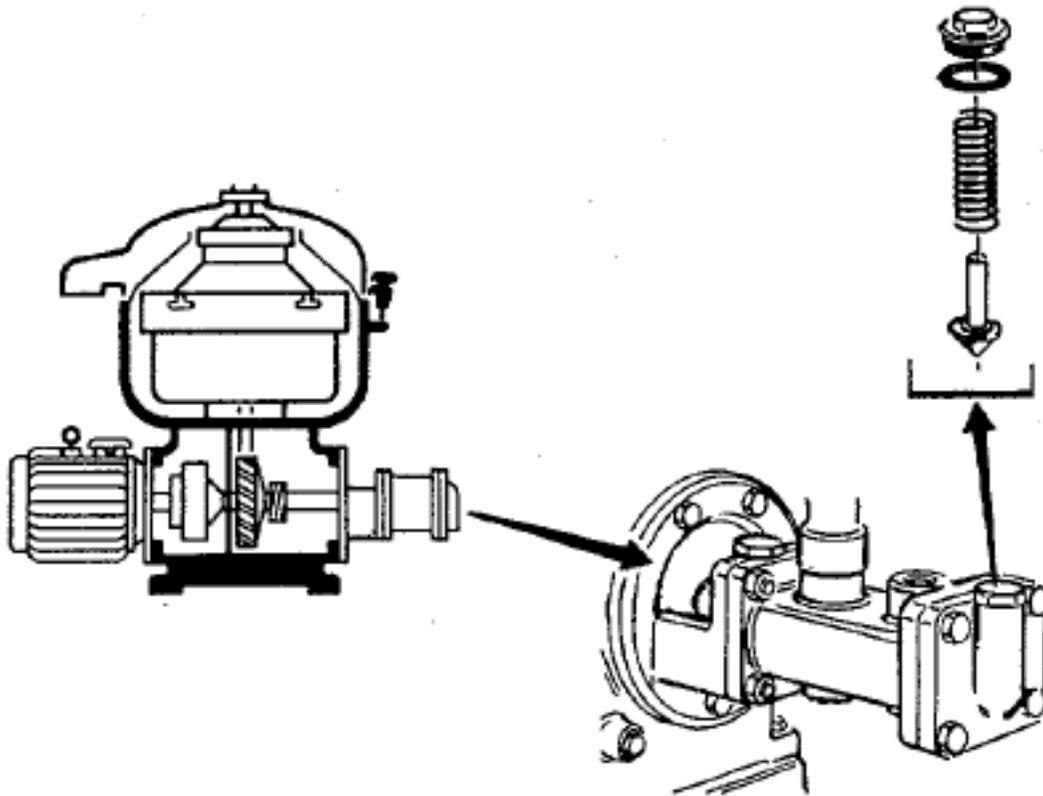

Figure 551-88L-2043\_21
- (10) Examine the feed / discharge pump assembly.
- (a) Examine the valve cone and valve seat, (refer to Figure 551-88L-2043\_21).
(b) Bushings. Exchange the bushings if they are scratched or there is a play between the shaft and bushings, (refer to Figure 551-88L-2043\_22 #1).